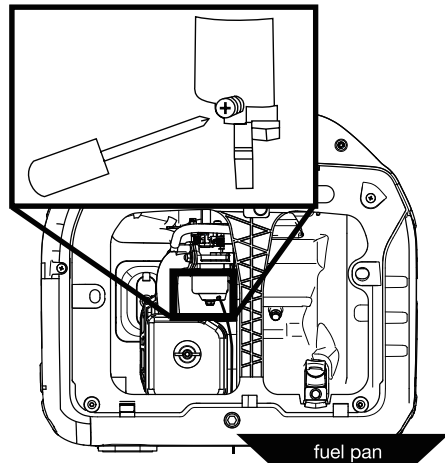

Figure 18: Loosen float bowl screw
- Loosen the float bowl drain screw (see Figure 18) until fuel is seen draining from the float bowl.